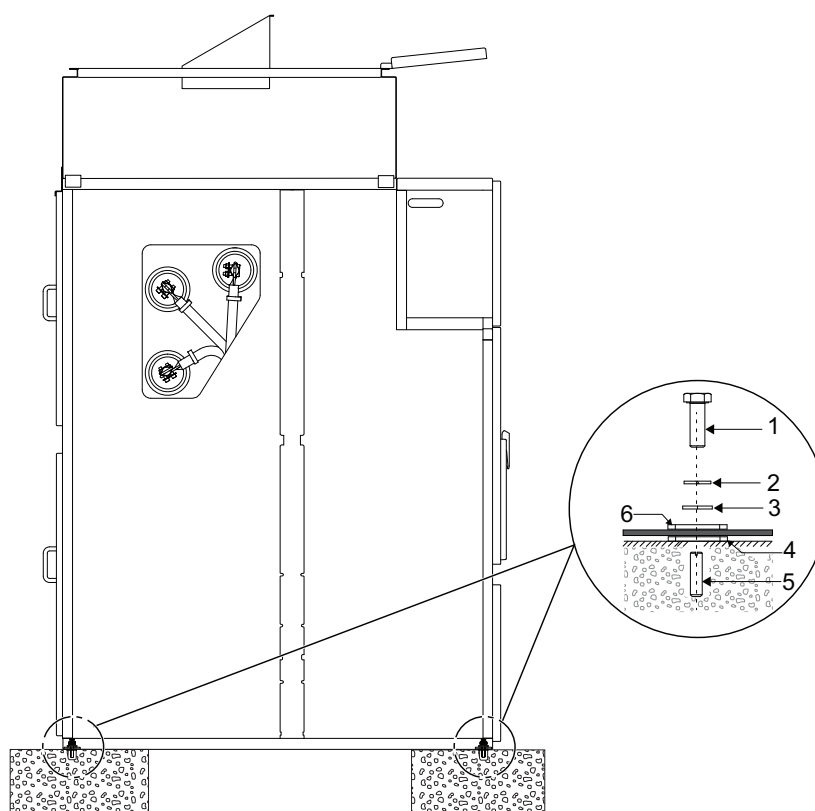

Figure 31
- b. If necessary, raise the cubicle and insert shims below the cubicle near the fastening points until the correct horizontal position is achieved, refer to Figure 31.